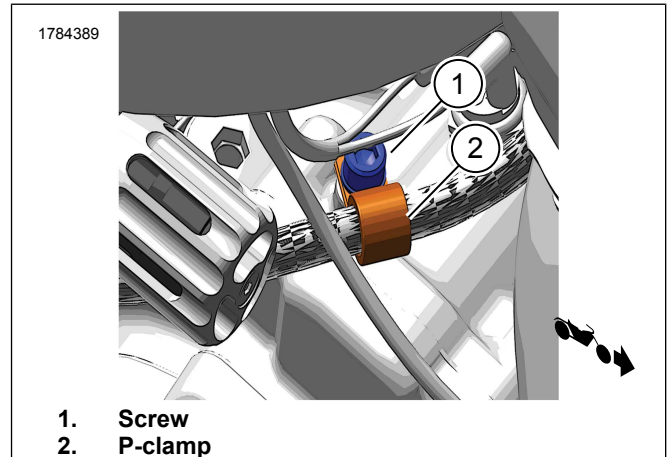

Figure 2. Install P-clamp and Screw
1. Figure 2 Secure hose with P-clamp (2) and screw (1) to vehicle.